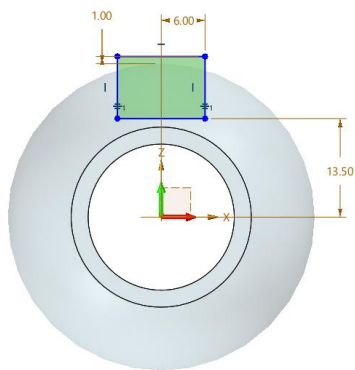

Figure 176 Drawing a Profile
STEP 04 Draw a profile on the XZ plane, as shown in Figure 176. Click the **Extrude** command, pick the sketch, cut through the revolve feature, and click  to create the slot feature.